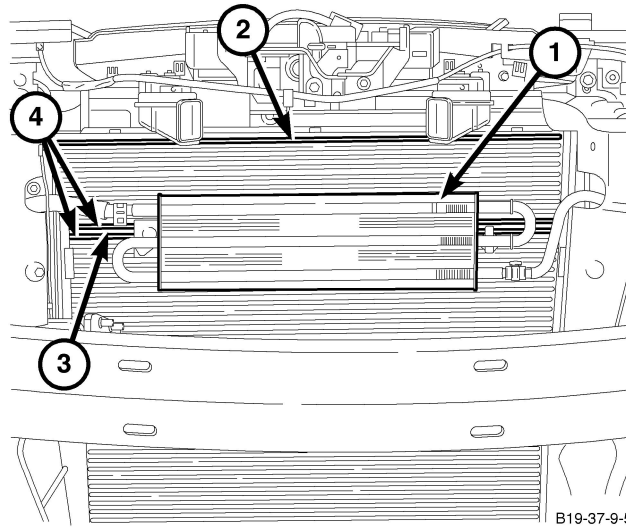

Fig. 3 SRT POWER STEERING COOLER
11. For SRT vehicles only: Using both cooler mounting clips, center the new power steering cooler (68017995AA) and mount between fins 11 and 12 from the top of the condenser edge (Fig. 3).